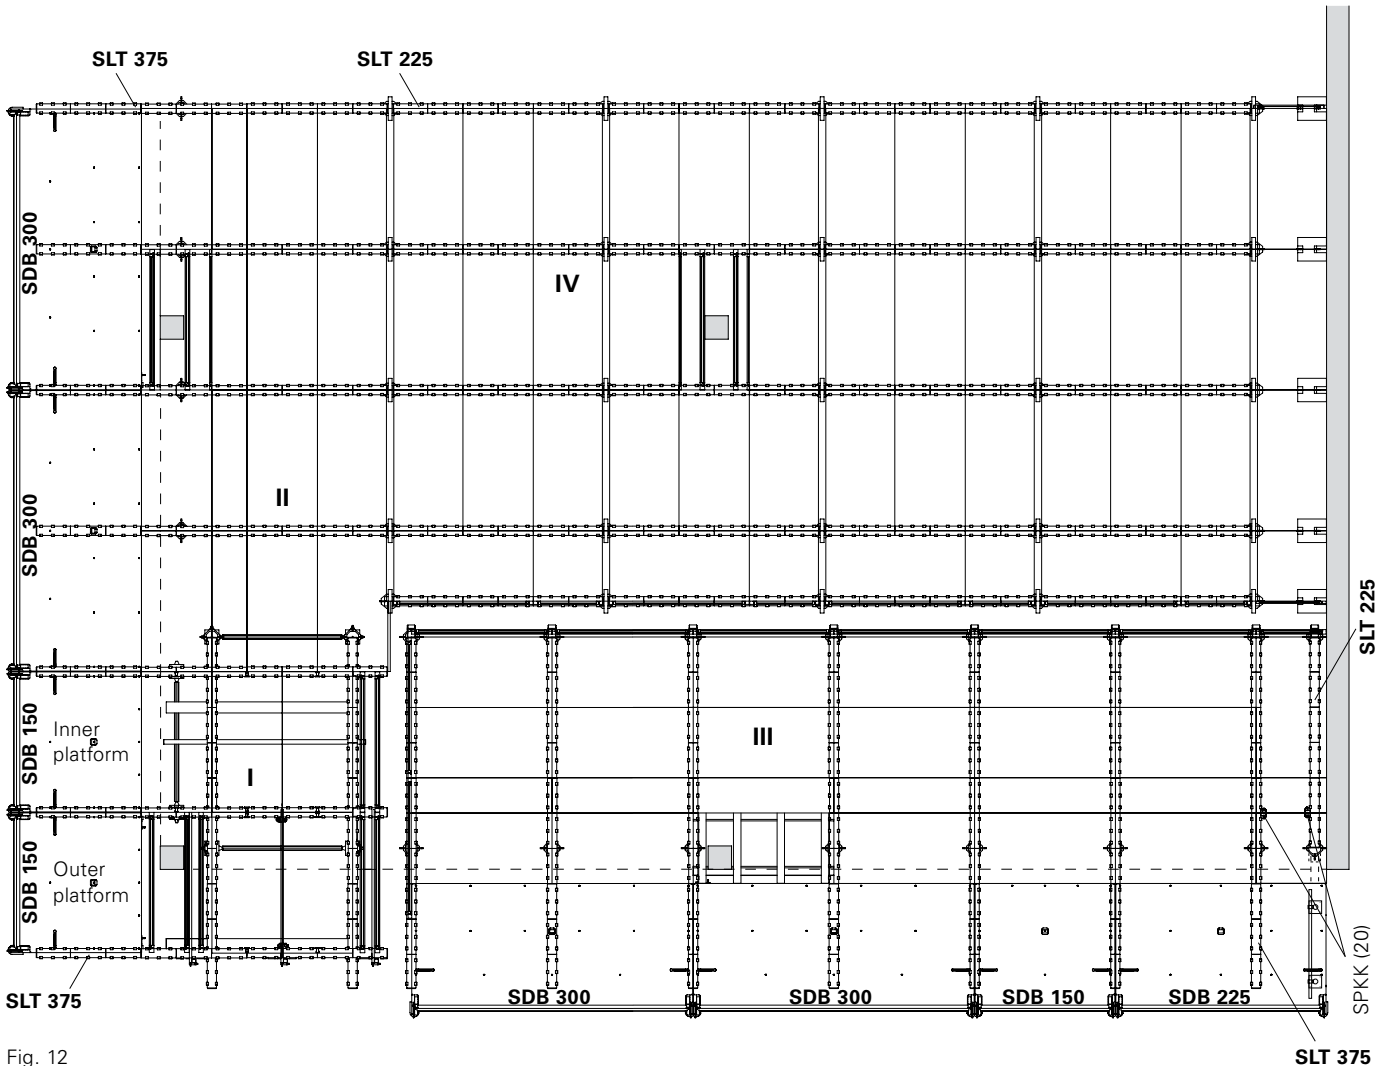

Fig. 12
Platform installation begins in an area where there is no risk to personnel falling to the side or rear (e.g. Area (II), ground plan). (Fig. 12)
Strike the SKYDECK slab formwork from Area (IV) of the ground plan (Fig. 12) in the direction of the slab edge up to the last but one bay of the cantilevered edge area.